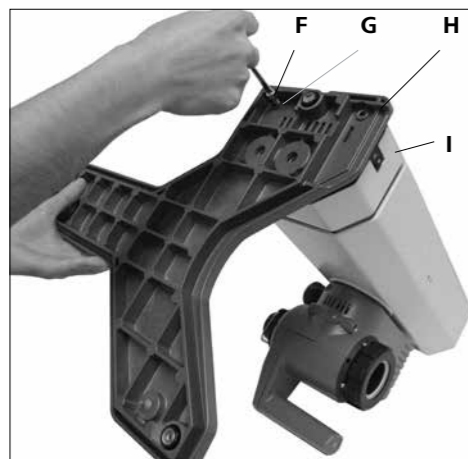

Fig. 7
1.) Mount the base to the lift. (Fig. 7)
- Apply Cylindrical M6x25 (F) (4x) and Serrated washer M6 (G) (4x) to mount base (H) with Lift Unit (I) after you unpack the package. (Fig. 7)